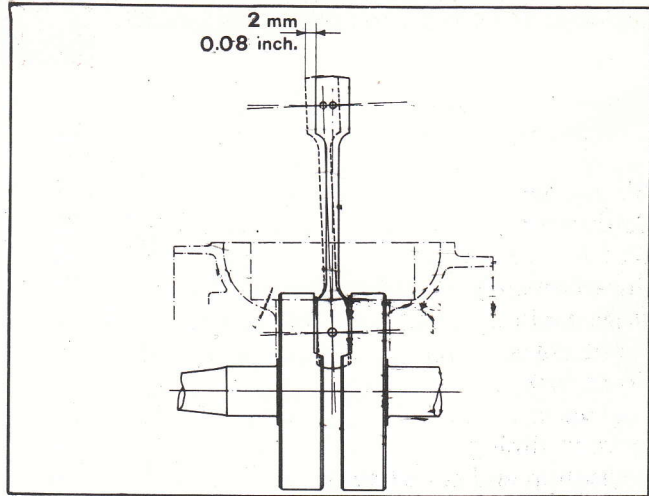

Fig. 30 - Checking connecting rod small end swing
- When connecting rod small end swing exceeds 0.08 in. (2 mm) (refer to fig. 30), the connecting rod must be replaced with a new one.